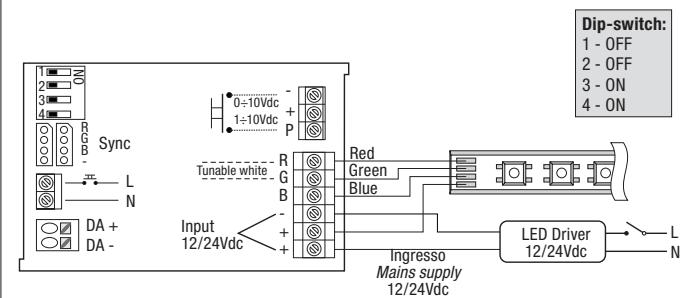

Fig. 6 - Sequenza colori fissi - Fixed color sequence
- 5 - Individual color sequence selection (Fig. 6)